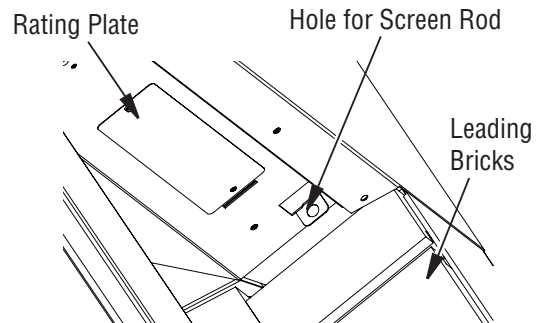

Figure 24 - Installing Fireplace Screen
2. Insert the round end screen rod into hole on the left and right side of smoke shelf (Figure 24).